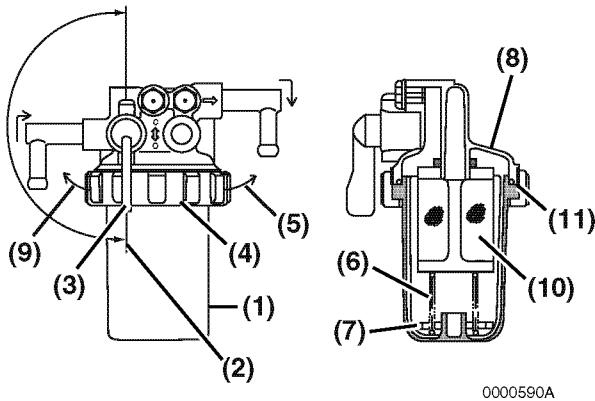

Figure 5-7
1. Position an approved container under the fuel filter / water separator (**Figure 5-7, (1)**) to collect the contaminants.
2. Close (**Figure 5-7, (2)**) the fuel cock (**Figure 5-7, (3)**).
3. Turn the retaining ring (**Figure 5-7, (4)**) to the left (**Figure 5-7, (9)**).
4. Carefully remove the cup (**Figure 5-7, (1)**). Remove the retaining spring (**Figure 5-7, (6)**) and float (**Figure 5-7, (7)**) from the cup. Pour the fuel into an approved container and dispose properly. Hold the bottom of the cup with a shop towel to prevent the fuel from dripping. Wipe up any spills immediately.
6. Inspect the condition of the mesh filter (**Figure 5-7, (10)**). Clean the mesh filter if necessary.
7. Inspect the condition of the O-ring (**Figure 5-7, (11)**). Replace the O-ring if necessary.
8. Put the float (**Figure 5-7, (7)**) and retaining spring (**Figure 5-7, (6)**) inside the cup.
9. Reinstall the cup to the mounting flange (**Figure 5-7, (8)**) and turn the retaining ring (**Figure 5-7, (4)**) to the right (**Figure 5-7, (5)**). Hand-tighten only.
10. Open the fuel cock (**Figure 5-7, (3)**).